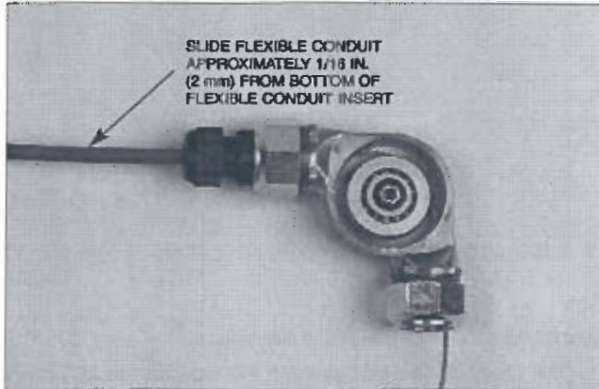

FIGURE 62
7. Slide the flexible conduit into the strain relief until it is approximately 1/16 in. (2 mm) from the bottom of the flexible conduit insert. See Figure 62.